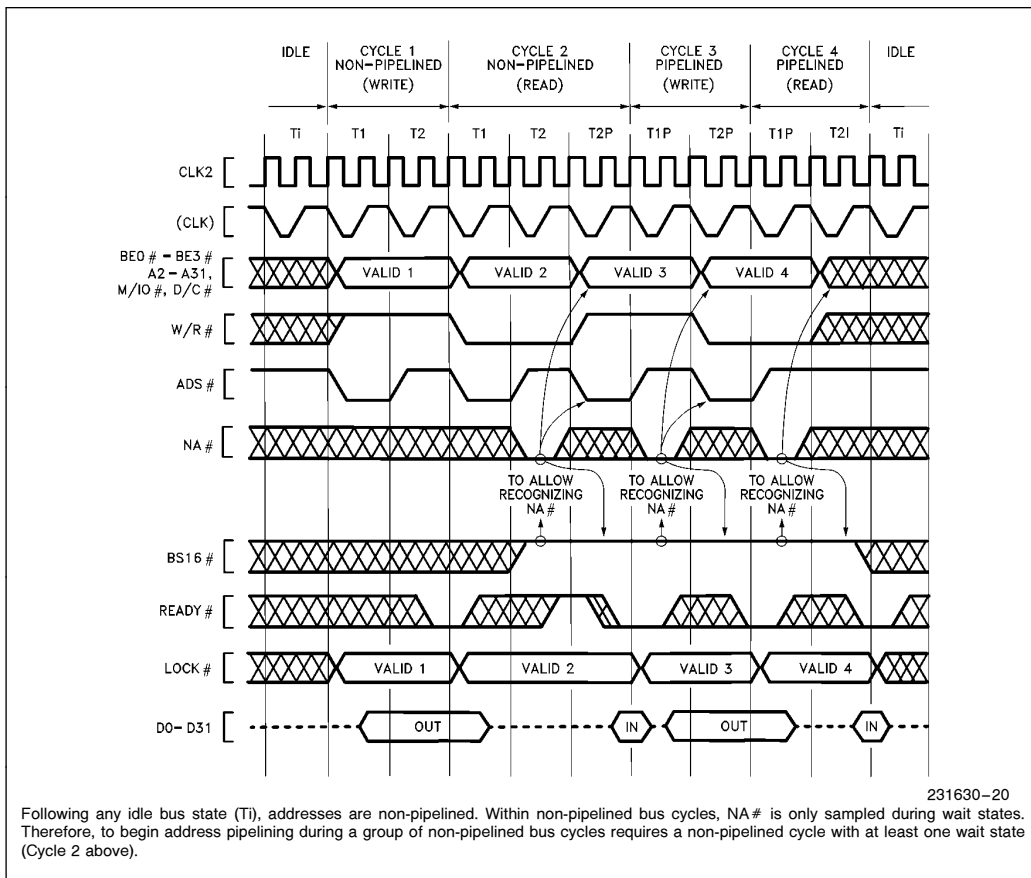
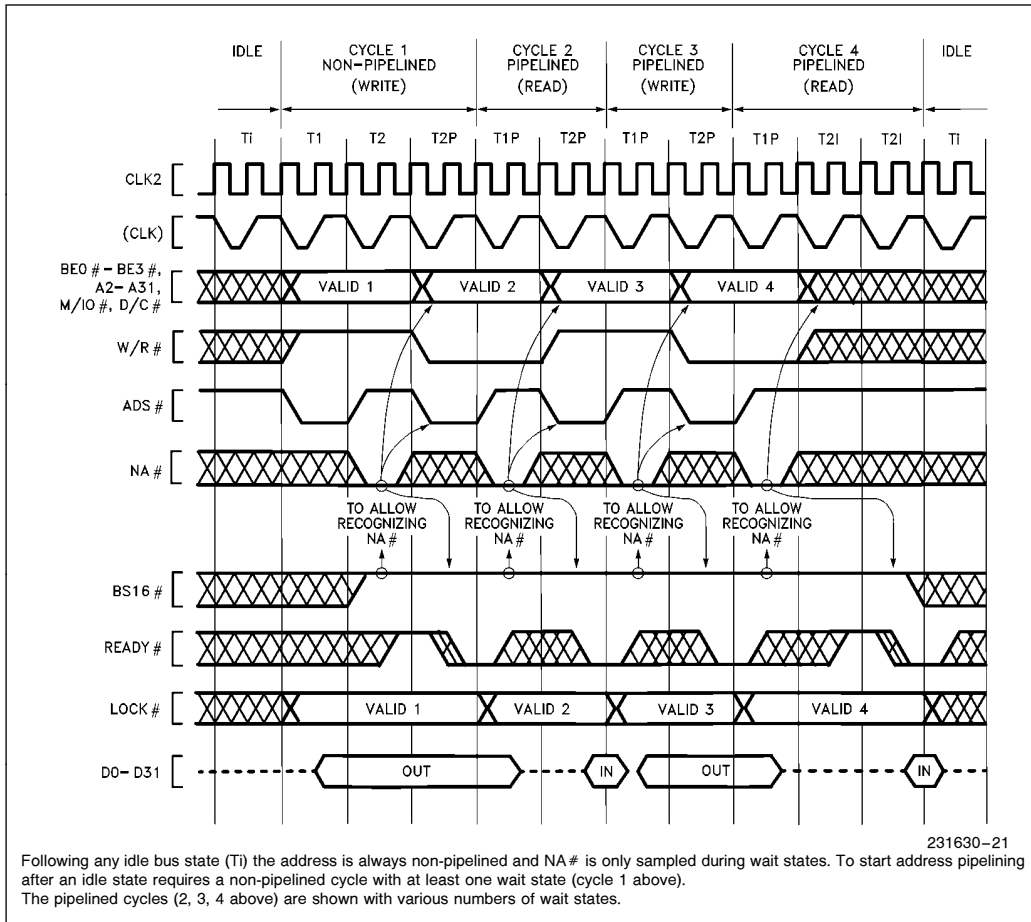
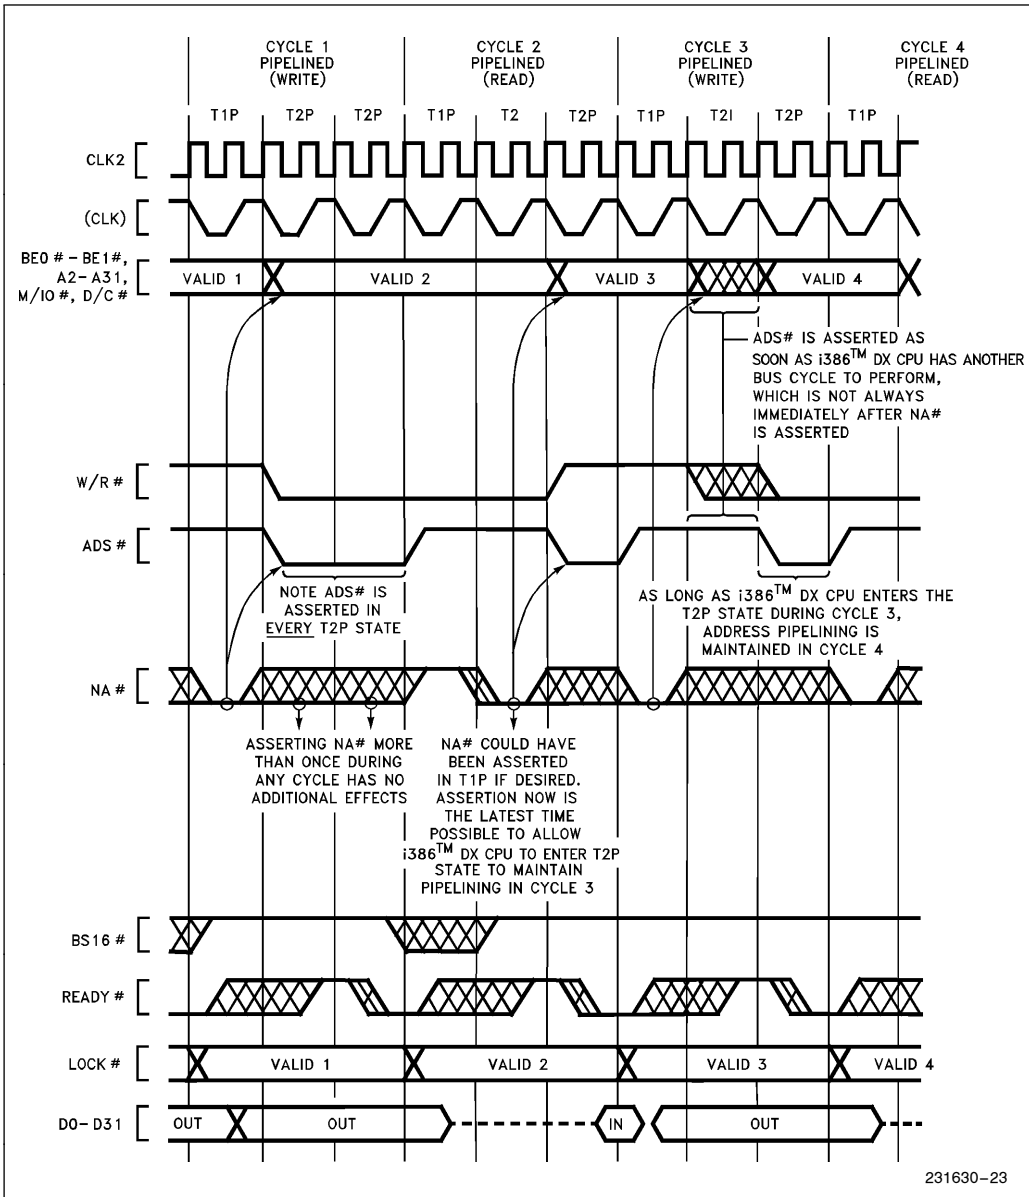

Figure 5-16. Transitioning to Pipelined Address During Burst of Bus Cycles
Figure 5-17. Fastest Transition to Pipelined Address Following Idle Bus State
Figure 5-19. Details of Address Pipelining During Cycles with Wait States
Once a bus cycle is in progress and the current address has been valid for at least one entire bus state, the NA# input is sampled at the end of every phase one until the bus cycle is acknowledged. During non-pipelined bus cycles, therefore, NA# is sampled at the end of phase one in every T2. An example is Cycle 2 in Figure 5-16, during which NA# is sampled at the end of phase one of every T2 (it was asserted once during the first T2 and has no further effect during that bus cycle).
- 1) For NA# to be sampled asserted, BS16# must be negated at that sampling window (see Figure 5-16 Cycles 2 through 4, and Figure 5-17 Cycles 1 through 4). If NA# and BS16# are both sampled asserted during the last T2 period of a bus cycle, BS16# asserted has priority. Therefore, if both are asserted, the current bus size is taken to be 16 bits and the next address is not pipelined.
- 2) The next address may appear as early as the bus state after NA# was sampled asserted (see Figures 5-16 or 5-17). In that case, state T2P is entered immediately. However, when there is not an internal bus request already pending, the next address will not be available immediately after NA# is asserted and T2I is entered instead of T2P (see Figure 5-19 Cycle 3). Provided the current bus cycle isn't yet acknowledged by READY# asserted, T2P will be entered as soon as the Intel386 DX does drive the next address. External hardware should therefore observe the ADS# output as confirmation the next address is actually being driven on the bus.
must assume the current bus size is 32 bits. Therefore if NA# is sampled asserted within a bus cycle, BS16# must be negated thereafter in that bus cycle (see Figures 5-16, 5-17, 5-19). Consequently, do not assert NA# during bus cycles which must have BS16# driven asserted. See **5.4.3.6 Dynamic Bus Sizing with Pipelined Address.**
- 4) Any address which is validated by a pulse on the Intel386 DX ADS# output will remain stable on the address pins for at least two processor clock periods. The Intel386 DX cannot produce a new address more frequently than every two processor clock periods (see Figures 5-16, 5-17, 5-19).
- 5) Only the address and bus cycle definition of the very next bus cycle is available. The pipelining capability cannot look further than one bus cycle ahead (see Figure 5-19 Cycle 1).
The transition to pipelined address is shown functionally by Figure 5-17 Cycle 1. Note that Cycle 1 is used to transition into pipelined address timing for the subsequent Cycles 2, 3 and 4, which are pipelined. The NA# input is asserted at the appropriate time to select address pipelining for Cycles 2, 3 and 4.
Once a bus cycle is in progress and the current address has become valid, the NA# input is sampled at the end of every phase one, beginning with the next bus state, until the bus cycle is acknowledged. During Figure 5-17 Cycle 1 therefore, sampling begins in T2. Once NA# is sampled asserted during the current cycle, the Intel386 DX is free to drive a new address and bus cycle definition on the bus as early as the next bus state. In Figure 5-16 Cycle 1 for example, the next address is driven during state T2P. Thus Cycle 1 makes the transition to pipelined address timing, since it begins with T1 but ends with T2P. Because the address for Cycle 2 is available before Cycle 2 begins, Cycle 2 is called a pipelined bus cycle, and it begins with T1P. Cycle 2 begins as soon as READY# asserted terminates Cycle 1.
Example transition bus cycles are Figure 5-17 Cycle 1 and Figure 5-16 Cycle 2. Figure 5-17 shows transition during the very first cycle after an idle bus state, which is the fastest possible transition into address pipelining. Figure 5-16 Cycle 2 shows a transition cycle occurring during a burst of bus cycles. In any case, a transition cycle is the same whenever it occurs: it consists at least of T1, T2 (you assert NA# at that time), and T2P (provided the Intel386 DX has an internal bus request already pending, which it almost always has). T2P states are repeated if wait states are added to the cycle.
Note three states (T1, T2 and T2P) are only required in a bus cycle performing a transition from non-pipelined address into pipelined address timing, for example Figure 5-17 Cycle 1. Figure 5-17 Cycles 2, 3 and 4 show that address pipelining can be maintained with two-state bus cycles consisting only of T1P and T2P.
Once a pipelined bus cycle is in progress, pipelined timing is maintained for the next cycle by asserting NA# and detecting that the Intel386 DX enters T2P during the current bus cycle. The current bus cycle must end in state T2P for pipelining to be maintained in the next cycle. T2P is identified by the assertion of ADS#. Figures 5-16 and 5-17 however, each show pipelining ending after Cycle 4 because Cycle 4 ends in T2I. This indicates the Intel386 DX didn't have an internal bus request prior to the acknowledgement of Cycle 4. If a cycle ends with a T2 or T2I, the next cycle will not be pipelined.